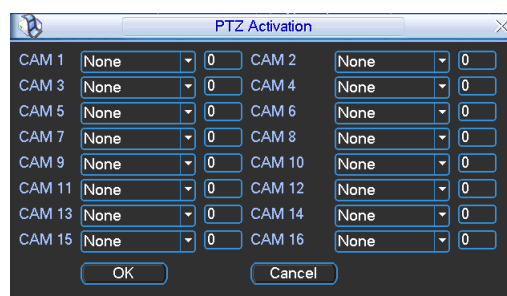

Figure 4-23
- PTZ activation: Here you can set PTZ movement when alarm occurs. Such as go to preset, tour& pattern when there is an alarm. Click "select" button, you can see an interface is shown as in Figure 4-23.